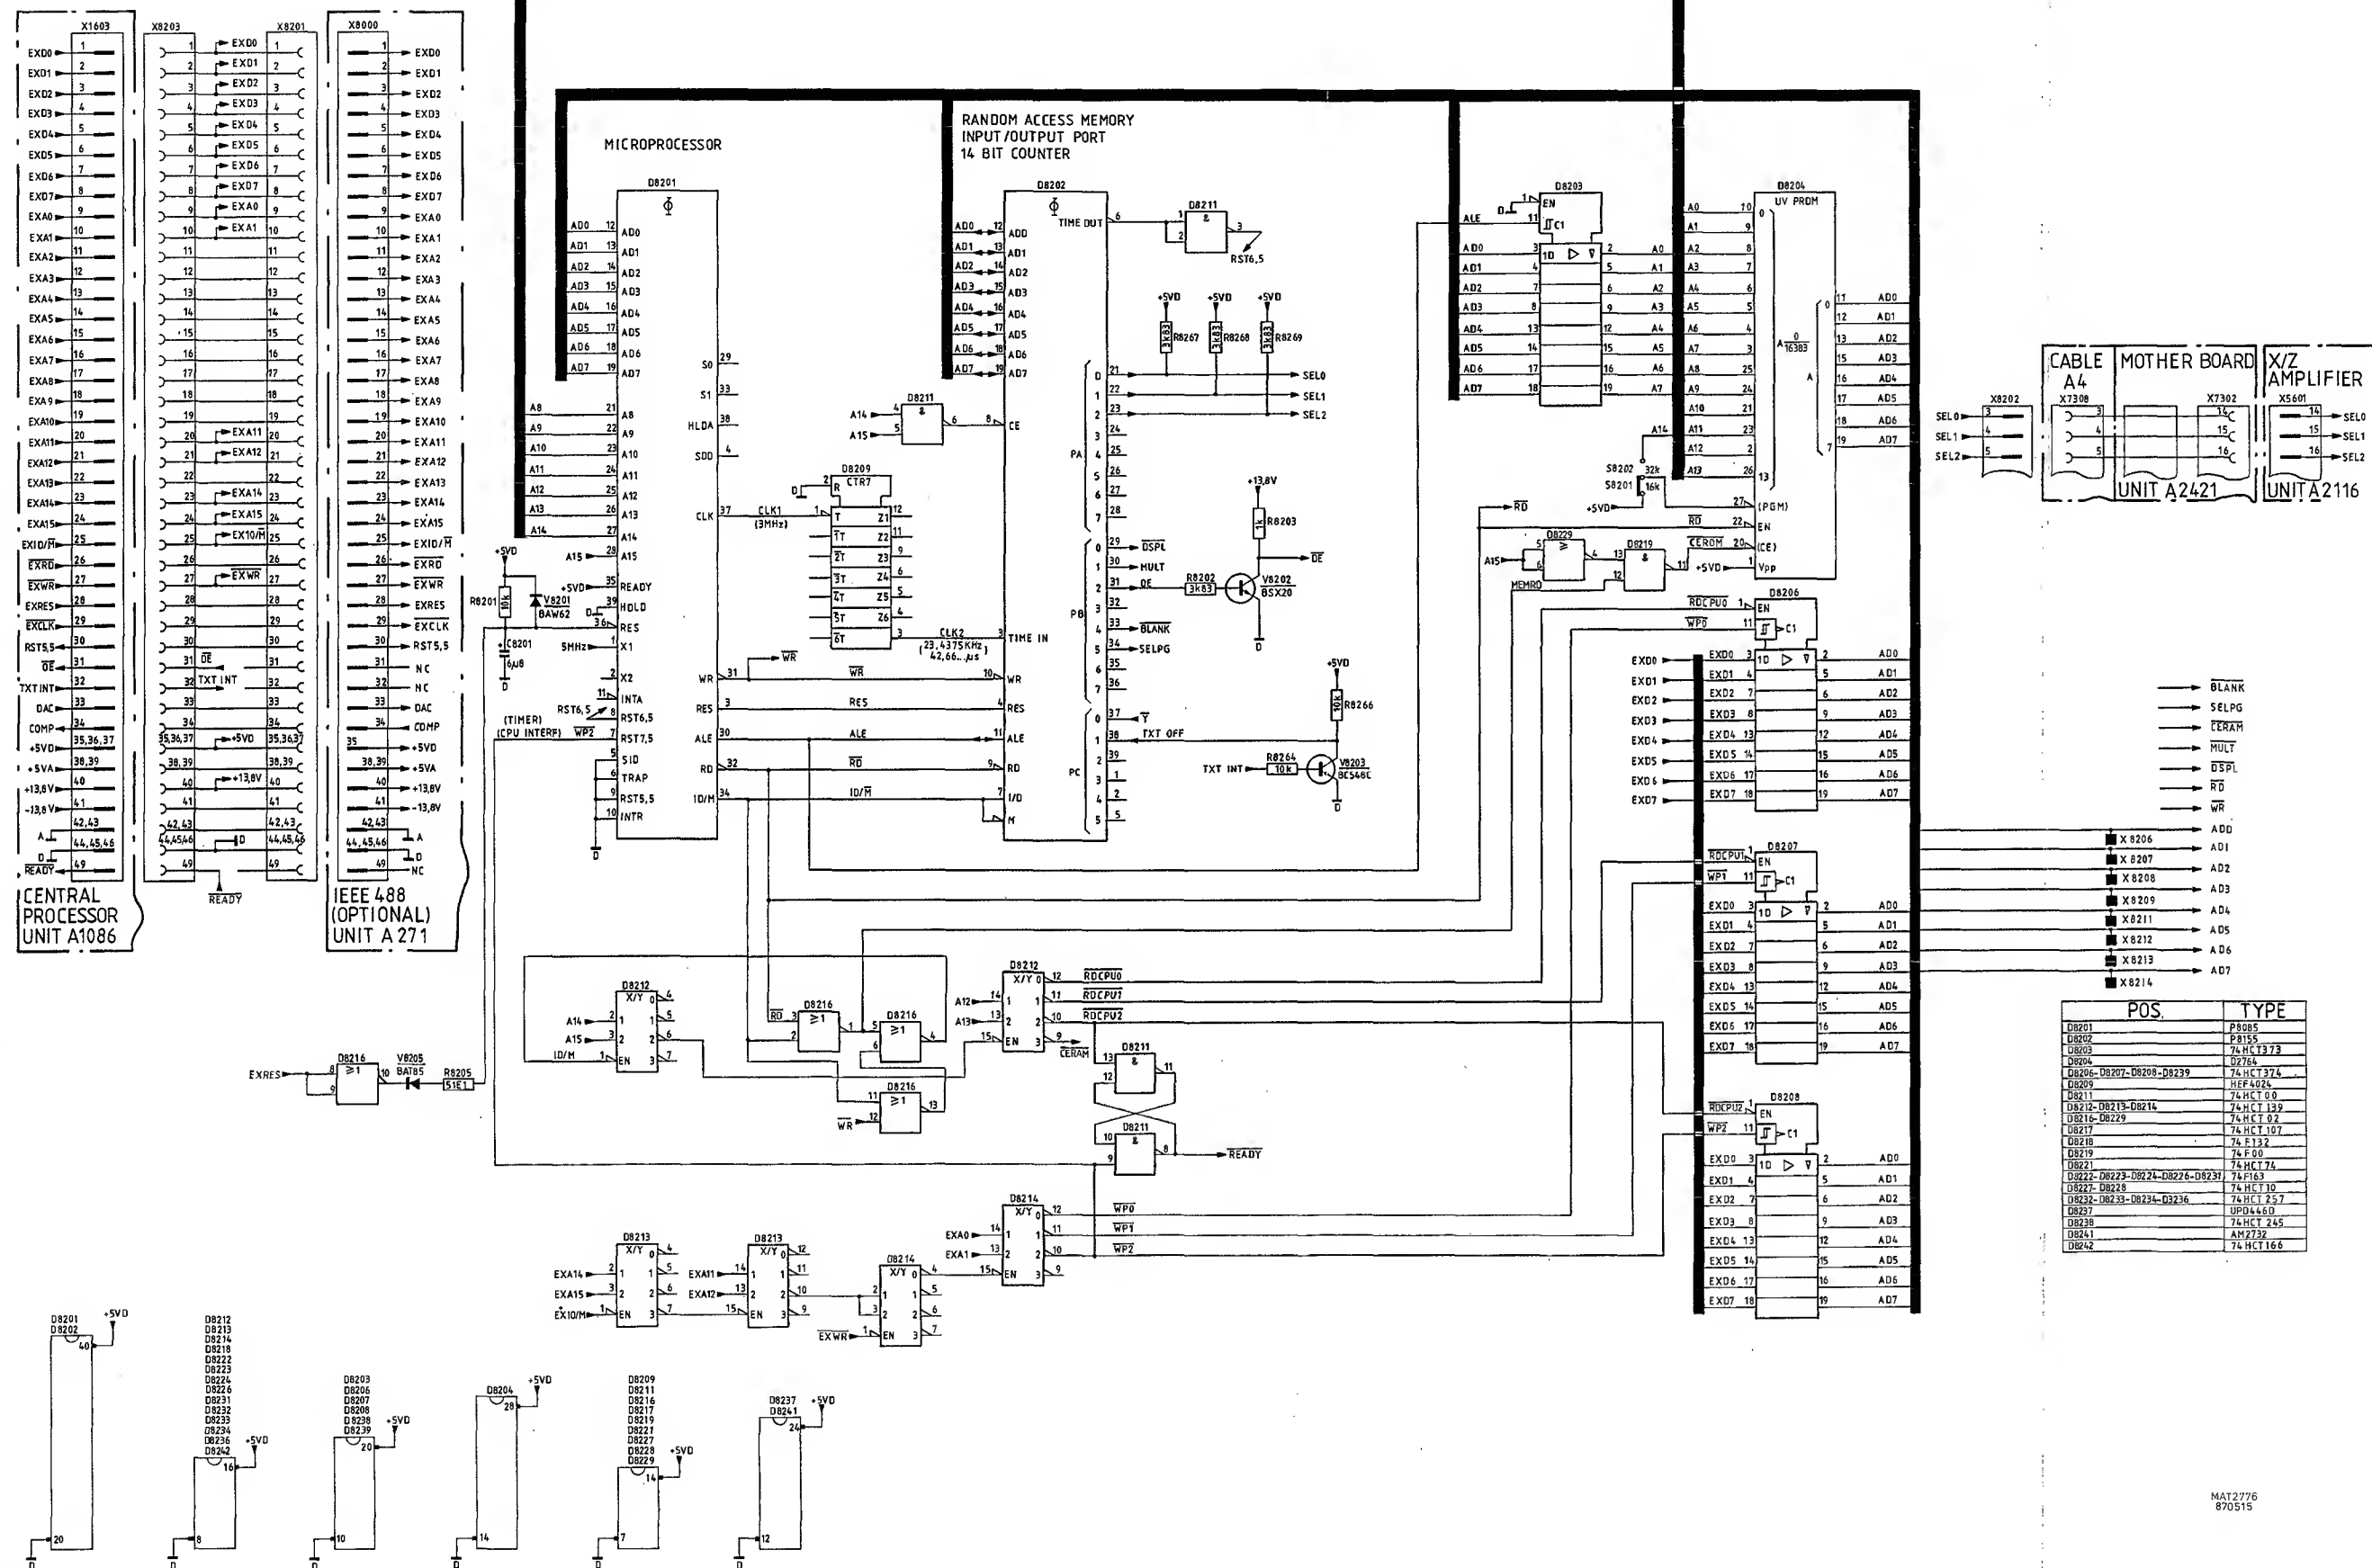

Fig.8.3. CRT text unit, circuit diagram 2.
8.2. CIRCUIT DESCRIPTION OF DIAGRAM 2 (See fig.8.3.)